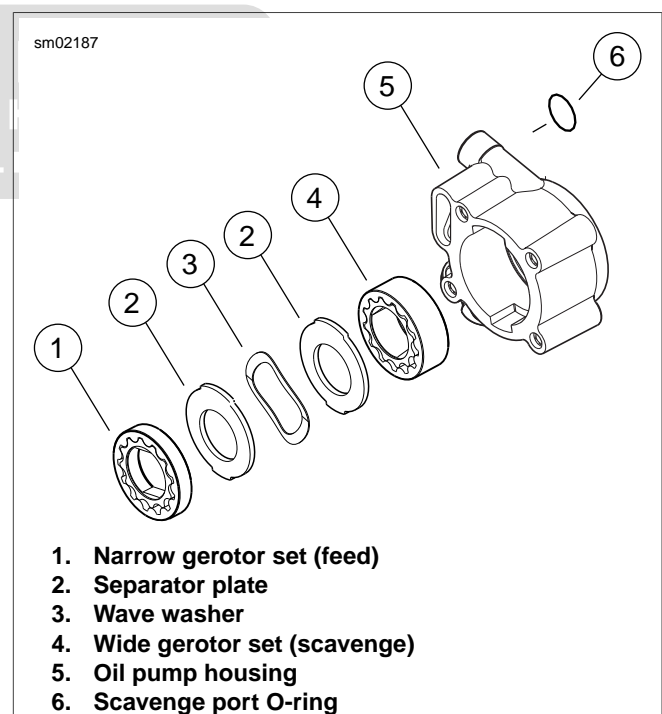

Figure 3-123. Assembling Oil Pump
8. See Figure 3-123. Assemble the oil pump. Verify that feed gerotors stand proud of the oil pump surface 0.015-0.025 in. (0.38-0.64 mm). If measurement is less than 0.015 in. (0.38 mm), remove feed gerotor set and reassemble using new wave washer. Repeat measurement and replace oil pump body if still not within specification.